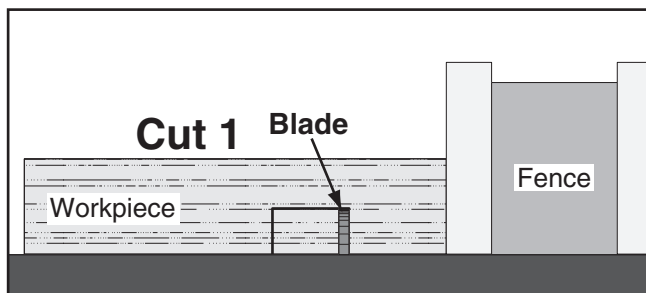

Figure 79. First cut for a single-blade dado.
6. Align the blade to cut one of the dado sides, as shown in **Figure 79**.